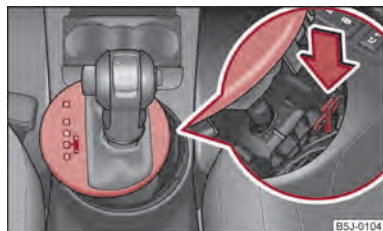

Fig. 91 Selector lever-emergency unlocking
- Use the finger to press the yellow plastic part downwards ⇒ fig. 91.